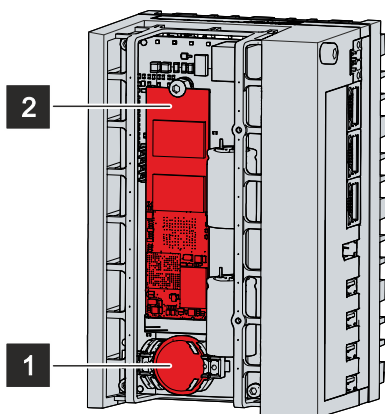

Fig. 27: Battery and storage media
- ⇒ The battery is now in an oblique position (see fig. 27).
5. Push the high side of the battery down into the battery holder (see fig. 27).